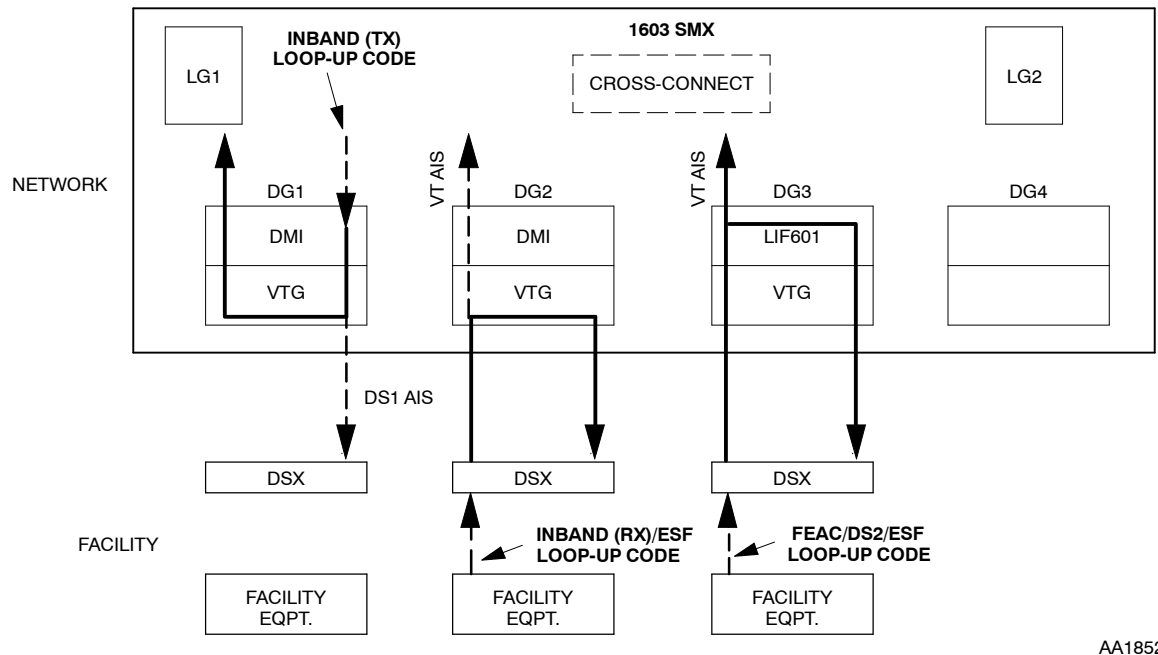

Figure 4. Receiving Inband Loopback Code from Facility Equipment
- 12 See Figure 4. To allow external loopback request on DS1 port, perform the following: